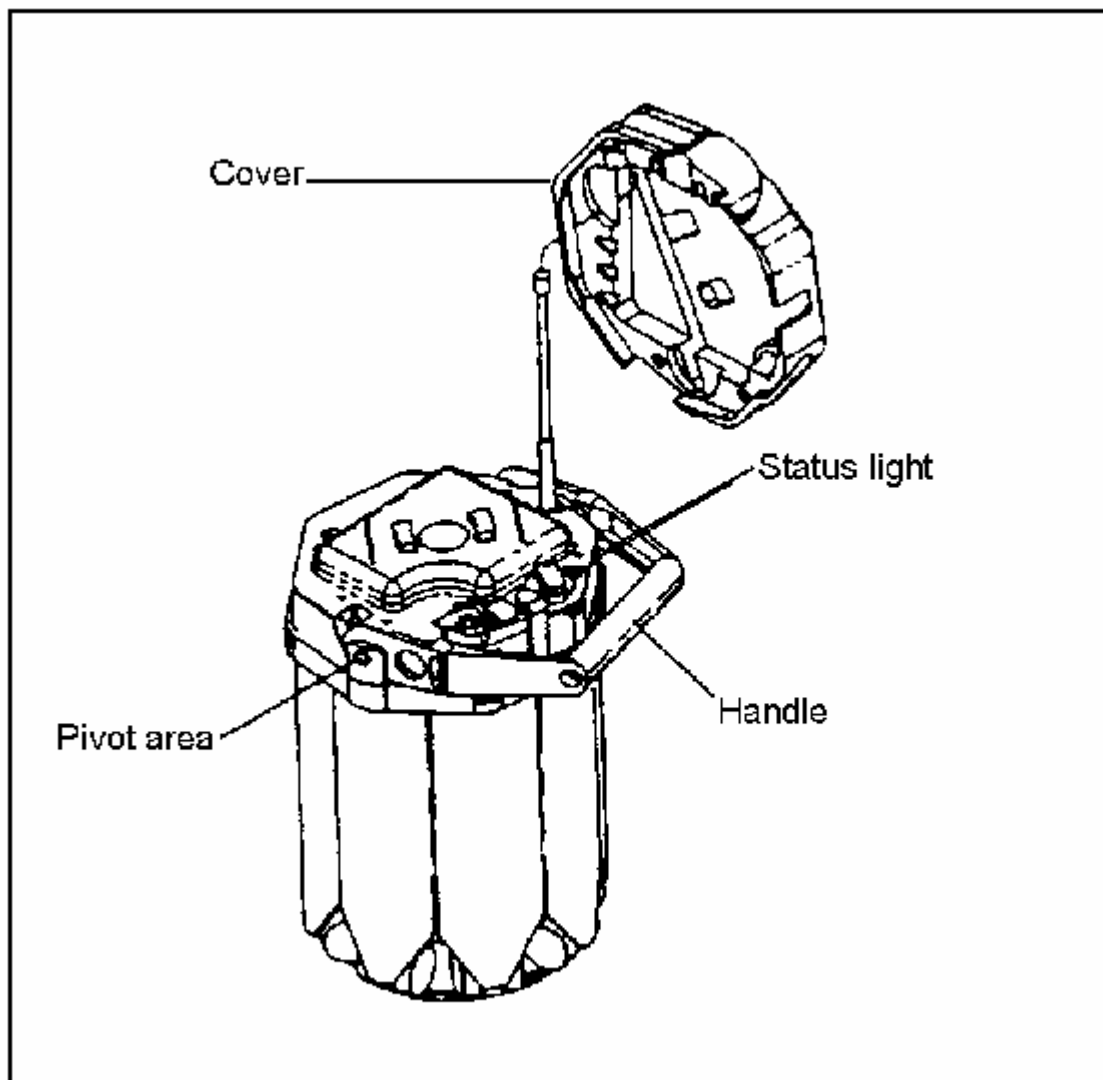

Figure 052-192-1225-3
- b. Look through the hole in the munition cover, and verify that the status light is flashing (Figure 052-192-1225-3).